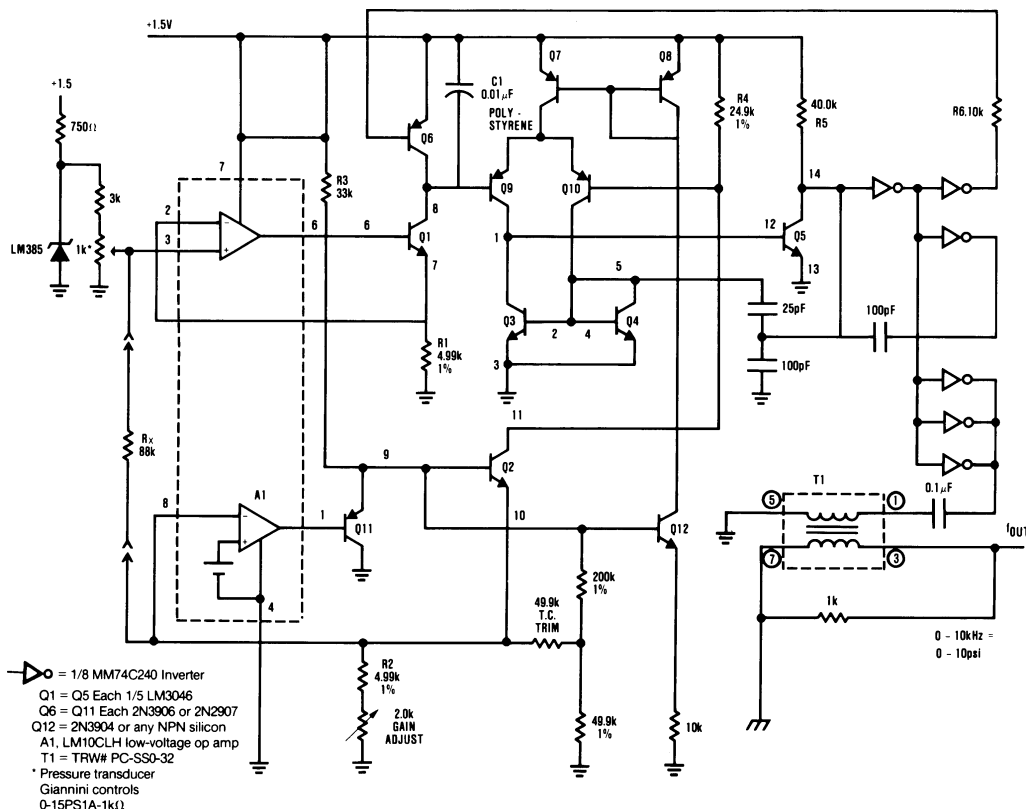

Figure 8. 1.5-Volt Powered Isolated Pressure Measurement Circuit
**Figure 8** diagrams another pressure measurement circuit. This circuit presents a frequency output which is fully isolated by the transformer indicated. The entire circuit may be powered from a 1.5-volt supply, which may be derived from a battery or solar cells. The potentiometer output of the pressure transducer used is fed to a voltage-to-frequency converter circuit. In this V-F circuit, an LM10 op amp acts as an input amplifier, and forces the collector current of Q1 to be linearly proportional to  $V_{IN}$  for a range of 0 to +400 millivolts. Likewise, the reference amplifier of the LM10 causes Q2's output current to be stable and constant under all conditions. The transistors Q3-Q10 form a relaxation oscillator, and every time the voltage across C1 reaches 0.8-volt, Q6 is commanded to reset it to zero volts differential. This basic circuit is not normally considered a very accurate technique, because the dead time, while Q6 is saturated, will cause a large (1%) nonlinearity in the V-to-F transfer curve. However, the addition of  $R_x$  causes the reference current flowing through Q2 to include a term which is linearly proportional to the signal, which corrects the transfer nonlinearity.